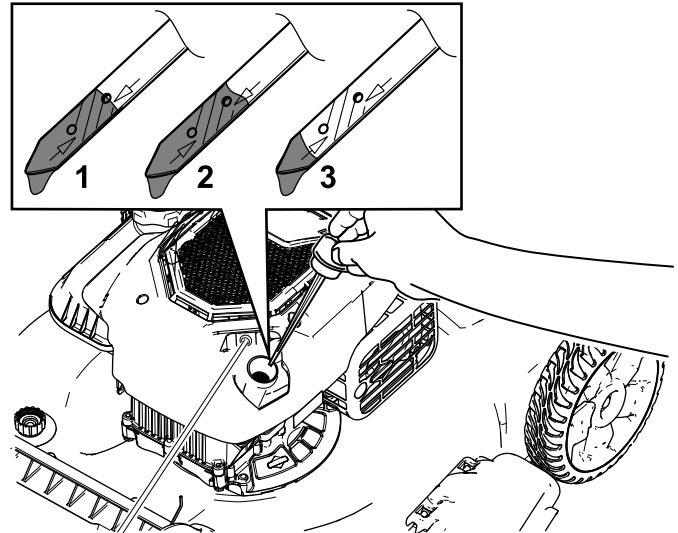

Figure 25
3. Remove the dipstick by rotating the cap counterclockwise and pulling it out (Figure 25).
10. Read the oil level on the dipstick (Figure 25).